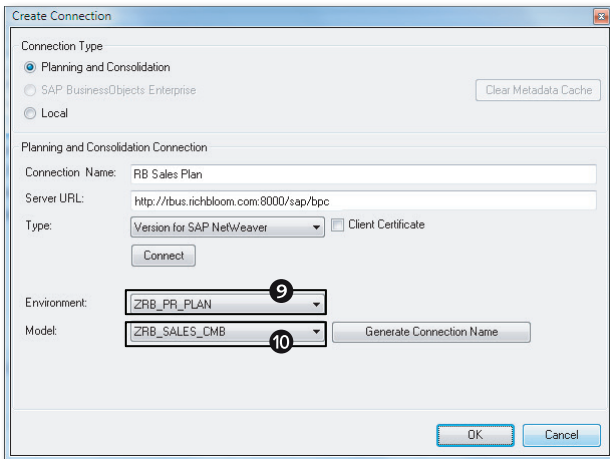

Figure 5.5 Creating a Manual Connection—Part E
- The system authenticates the user and in the next screen provides the option to select an environment from the ENVIRONMENTS dropdown list (Figure 5.5, 9). Only the environments that the user has access to will be displayed in this list. After selecting the environment, a list of models available in the environment is displayed, and a model is selected (Figure 5.5, 10). You can let the system generate a connection name by clicking on GENERATE CONNECTION NAME. The connection name generated can be overwritten with a name of your choice.